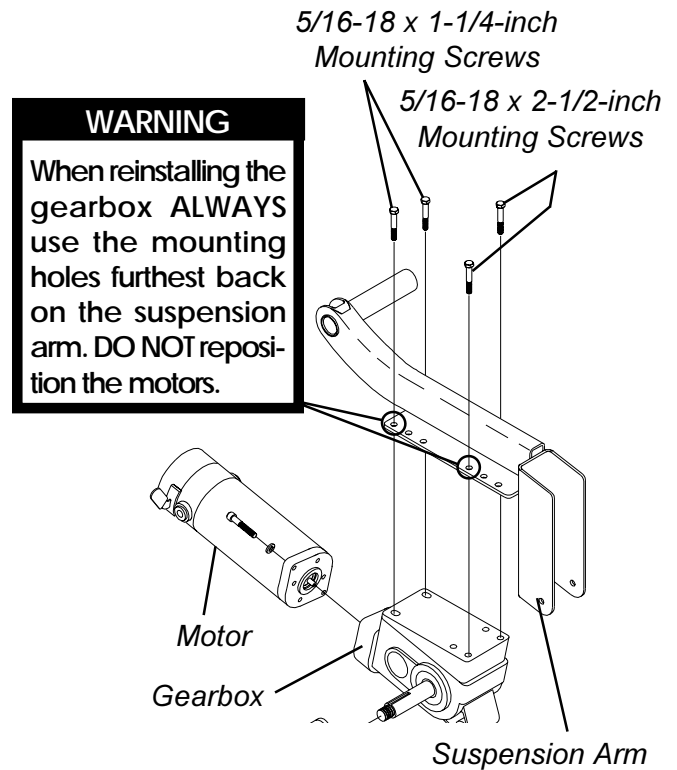

FIGURE 12 - REMOVING/INSTALLING GEARBOX
**REMOVING/INSTALLING GEARBOX (FIGURE 12)**